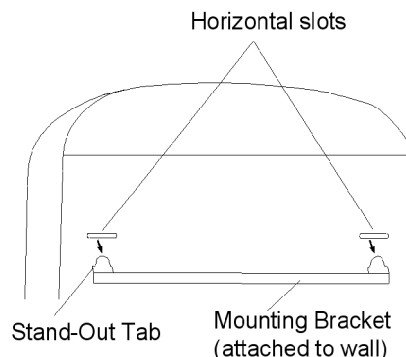

Figure 9 - Mounting Heater Onto Mounting Bracket
1. Locate two horizontal slots on back panel of heater (see Figure 9).